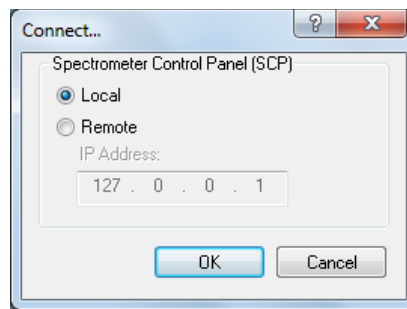

Figure 5.31: the Connect dialog box
- **Go On-line** will display the **Connect** dialog box (Figure 5.31) on which you will be asked to supply the Chirascan IP Address. It is used when Pro-Data Viewer has been started as a stand-alone program and you want subsequently to establish a link with the spectrometer control program (SCP). If the two programs are running on the same computer, select **Local** in the Connect window. The IP address under these circumstances is always the default 127.0.0.1.